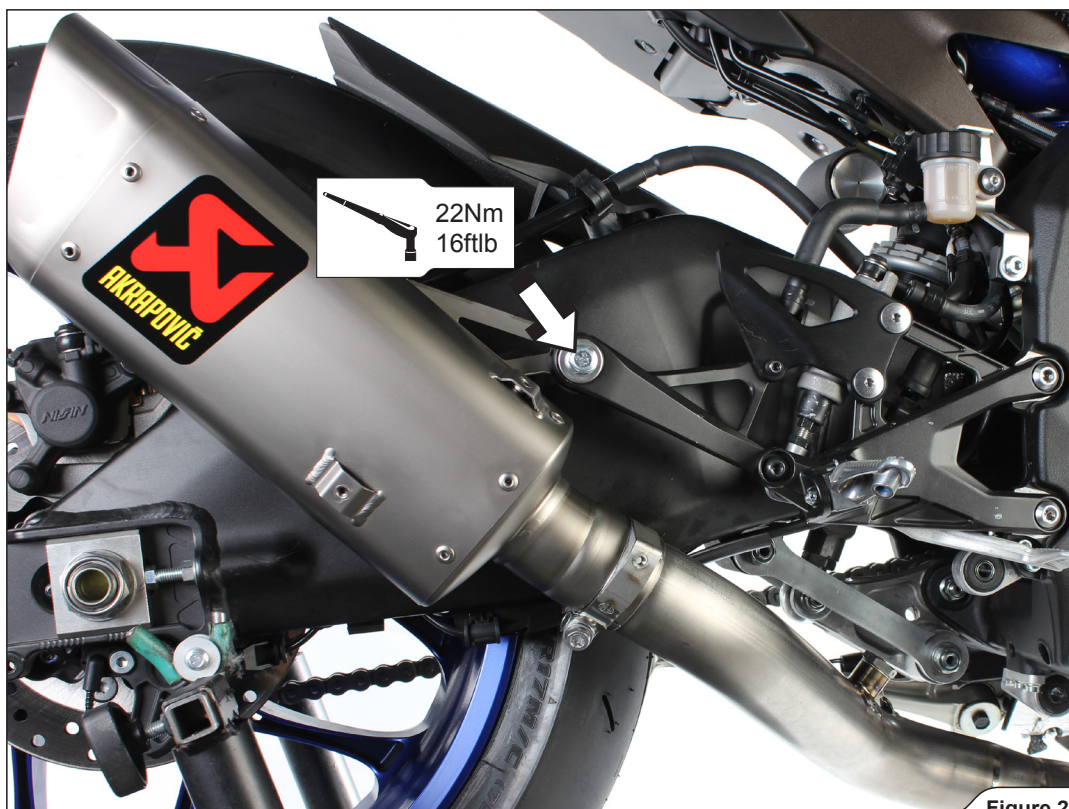

Figure 22
- Position the muffler correctly and slide it onto the outlet of the link pipe. Align the muffler in respect to the motorcycle and tighten the muffler bracket using bolt, washers and nut (Figure 22).